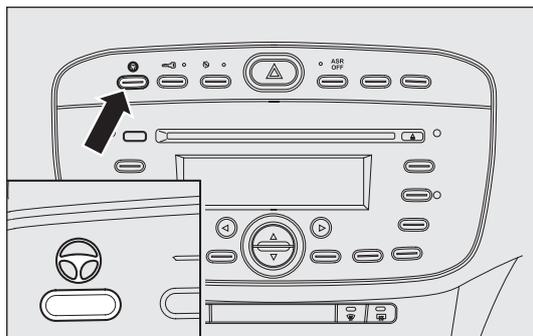

fig. 109
- the word CITY lit up on the button after it has been pressed fig. 109.